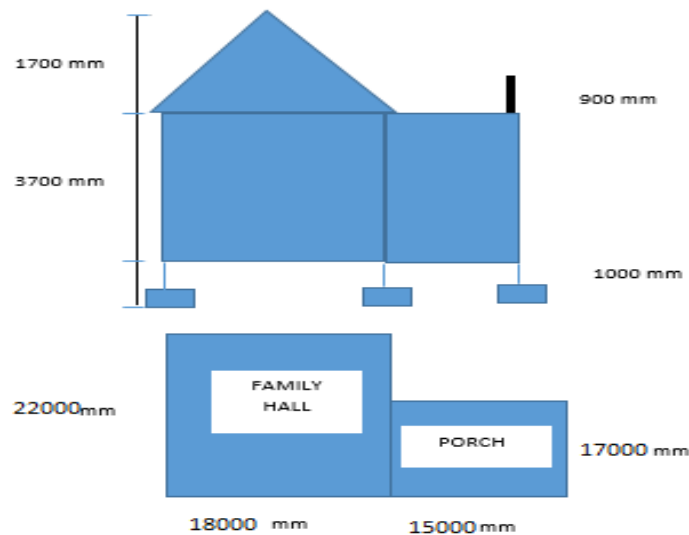

Figure B2(a) / Rajah B2(a)
- (a) Based on Figure B2(a), estimate the cost of the building construction below. Assuming the cost per m^3 is RM400.00.